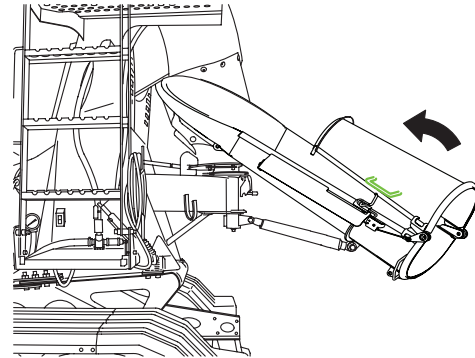

Figure 35
2. Slowly raise the chute into stored position (Figure 35).